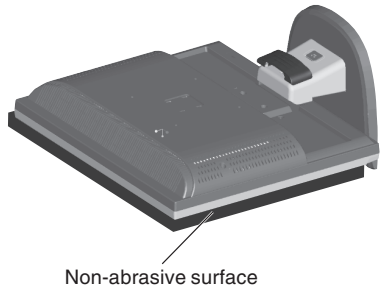

Figure R.1
2. Place monitor face down on a non-abrasive surface (Figure R.1).
1. Place monitor face down on a non-abrasive surface (**Figure R.1**).